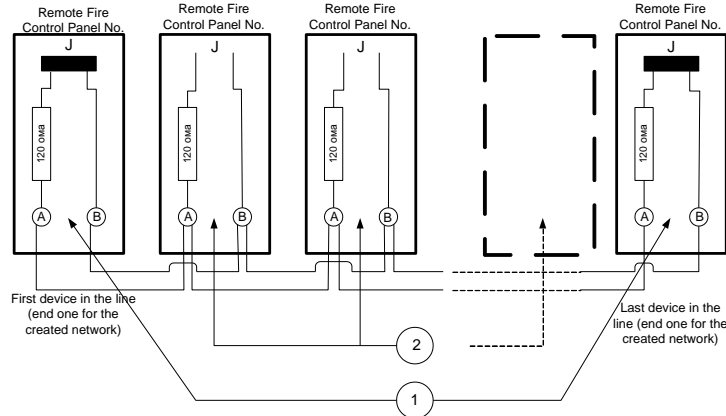

Fig.3
- If the fire control panel, connected to the local network, is an end one then set the line terminating jumper pos.1 (Fig.3) to position (On);
- If the fire control panel, connected to the local network, is not an end one then set the jumper pos. 2 (Fig.3) to position (Off).